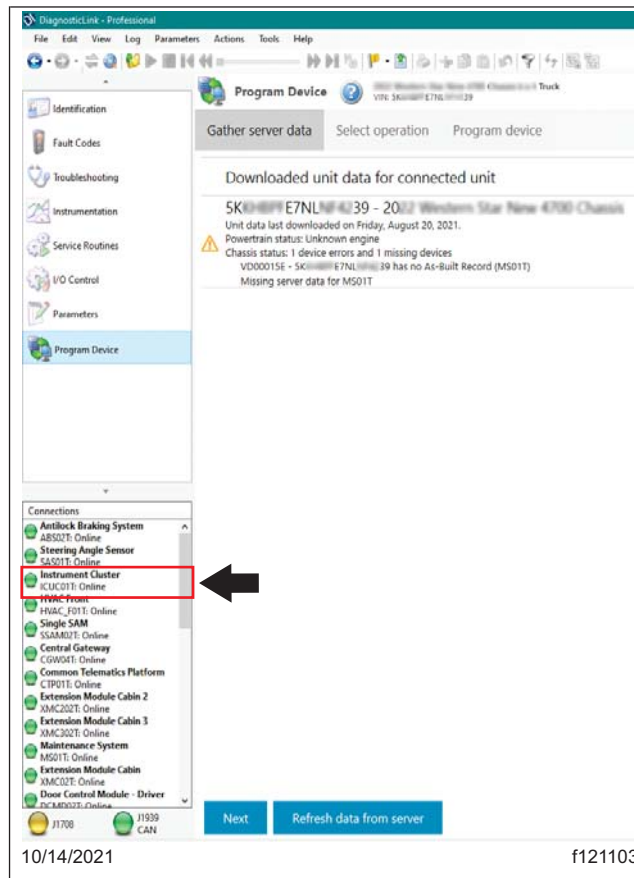

Fig. 2, ICUC01T ECU Connected
5. Connect the vehicle to DiagnosticLink. Make sure the ICUC01T rollcalls and is visible in the 'Connections' window. See Fig. 2.